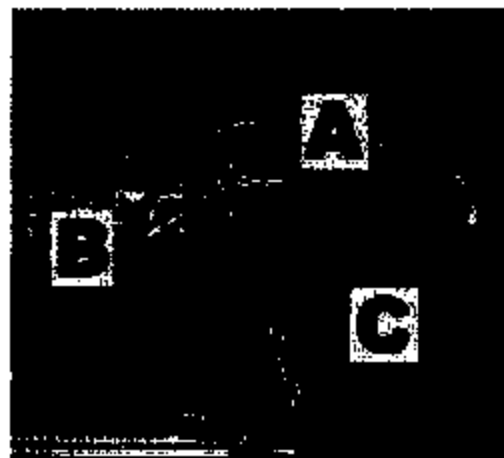

Fig. 4
9. Using a metal cable tie, attach the wire harness/insulation combination to the frame rail through the same hole as the plastic cable tie attached in step #6. Cut off excess. (Fig 4 [B])